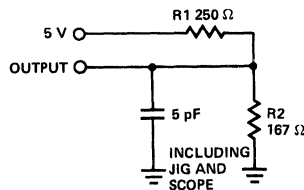

Figure 1b
3. Transition is measured at steady state HIGH level - 500 mV or steady state LOW level + 500 mV on the output from the 1.5V level on the input with loads shown in Figure 1b.
6. See Figure 1b for tHZ.
5. Transition is measured at steady state HIGH level  $-500\text{ mV}$  or steady state LOW level  $+500\text{ mV}$  on the output from the 1.5V level on inputs with load shown in Figure 1b.